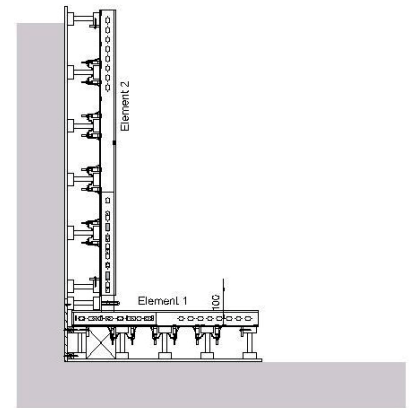

Fig. B5.06
4. Clamp TKZ in position with element 2 by KZ wedge. (Fig.B5.06)